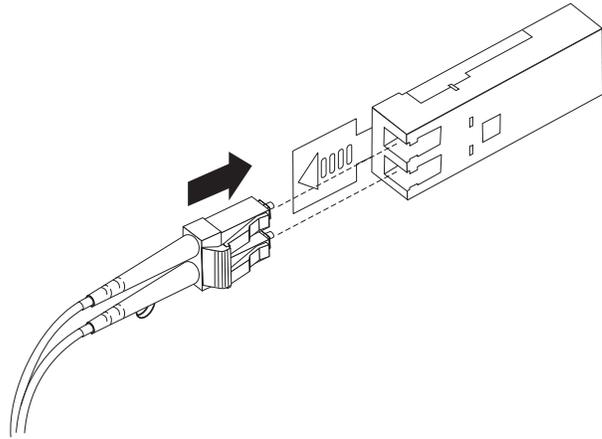

Figure 26. Inserting an LC-LC fibre-channel cable into an SFP module
4. Carefully insert this end of the LC-LC cable into an SFP module that is installed in the DS4700. The cable connector is keyed to ensure it is inserted into the SFP module correctly. Holding the connector, push in the cable until it clicks into place, as shown in Figure 26.